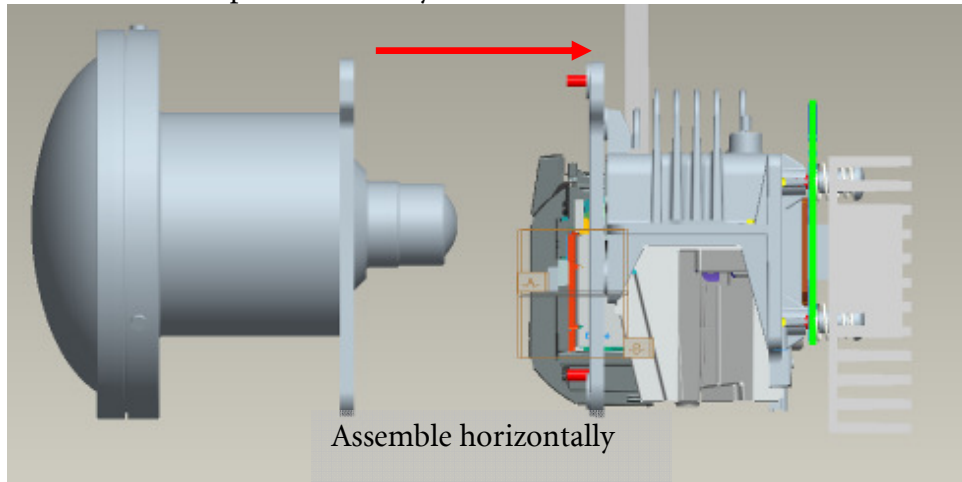

Fig. 5-9
- i. Assemble Lens and the Assembly direction must be horizontal(Fig. 5-9)